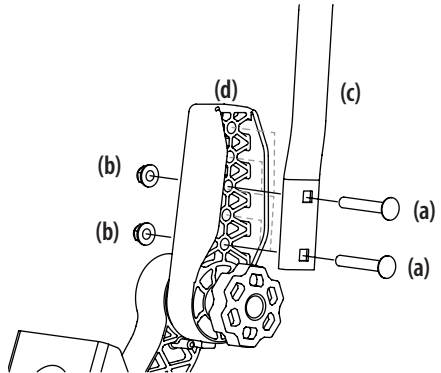

Figure 8
1. Remove the two carriage screws (a) and two flange lock nuts (b) that secure the lapbar drive control lever (c) to the upper handle adjuster (d). See Figure 8.
2. Move the lapbar drive control lever into one of three available heights and secure in place with the carriage screws and flange lock nuts. See Figure 8.
4. If the lapbars do not line up after making the knob adjustment, loosen nuts (b), align lapbars and re-tighten nuts. Once this fine adjustment is made, the lapbars will align when using the knob adjustment. See Figure 8.